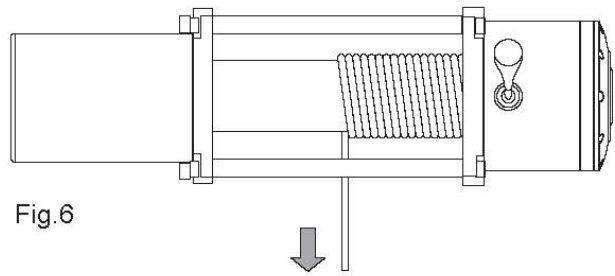
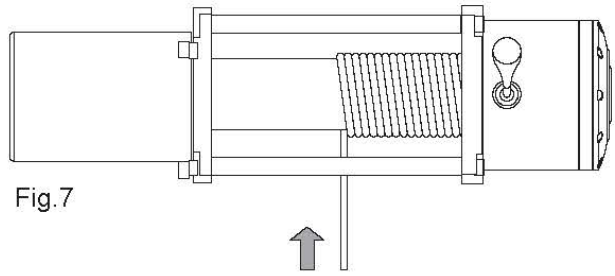
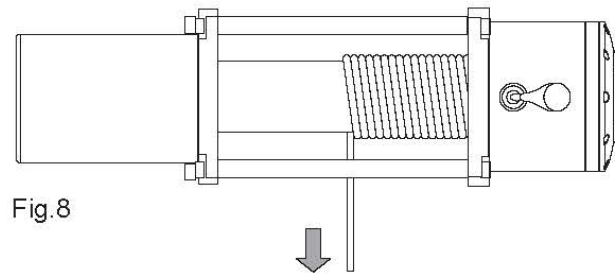

Fig.6
Fig.7
Fig.8
3. Model FERC02 is supplied with winch model RES6000, RES8000, RES9500 and RES12000 (Fig6,& Fig.7). Model FERC05 is supplied with winch model RES15000, RH15000, and RH18000(Fig.8, 9). Both models have 4-pin or 5-pin plug supplied as per orders. Pay attention to different pin type when connecting Remote Control to Solenoid Assembly.
2. Connect the Receiver to Solenoid Assembly. See Fig.8